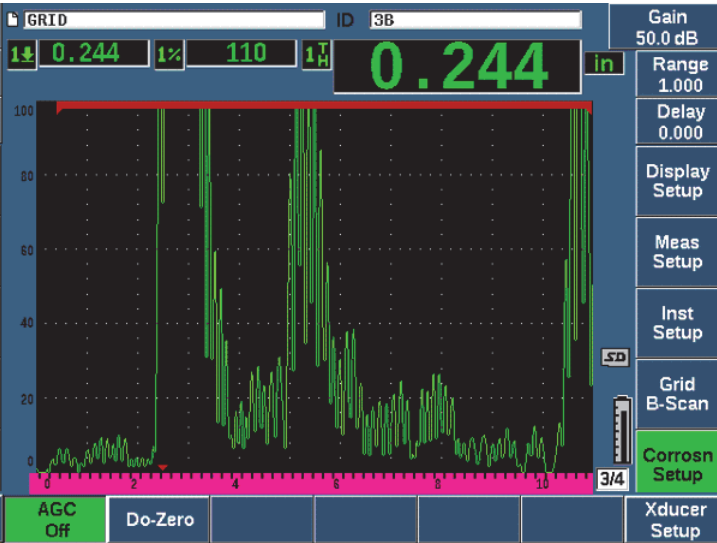

Figure 11-40 Corrosion Module AGC set to Off
2. Use the knob or arrow keys to set **AGC** to **Off** (see Figure 11-40 on page 294).
3. Press dB and press a parameter key (P1–P7) to set a gain range, then use the knob or arrow keys to adjust the gain value (see Figure 11-40 on page 294).